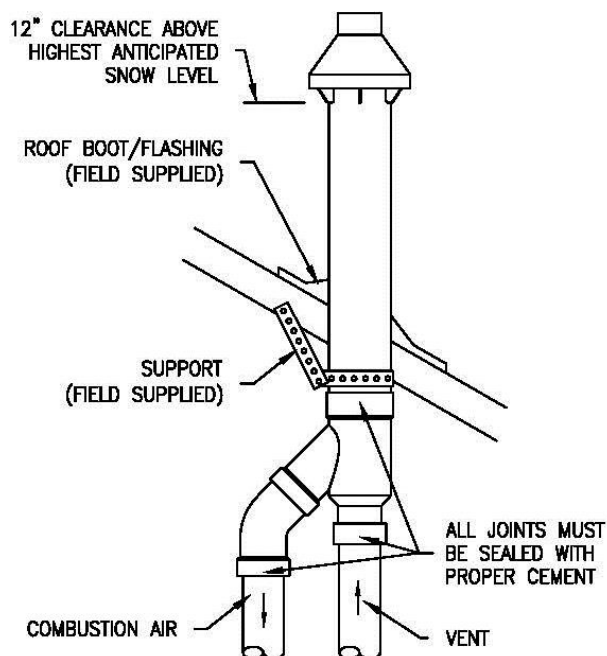

Figure 22 - Concentric Vent Roof Top Attachment
6. Secure assembly to roof structure as shown in Figure 22 using field-supplied metal strapping or equivalent support material.
Ensure termination height is above the roof surface or anticipated snow level (see Figure 22).
8. Cement heater combustion-air and vent pipes to concentric y fitting assembly (see Figure 20). See Figure 22 for proper pipe attachment.